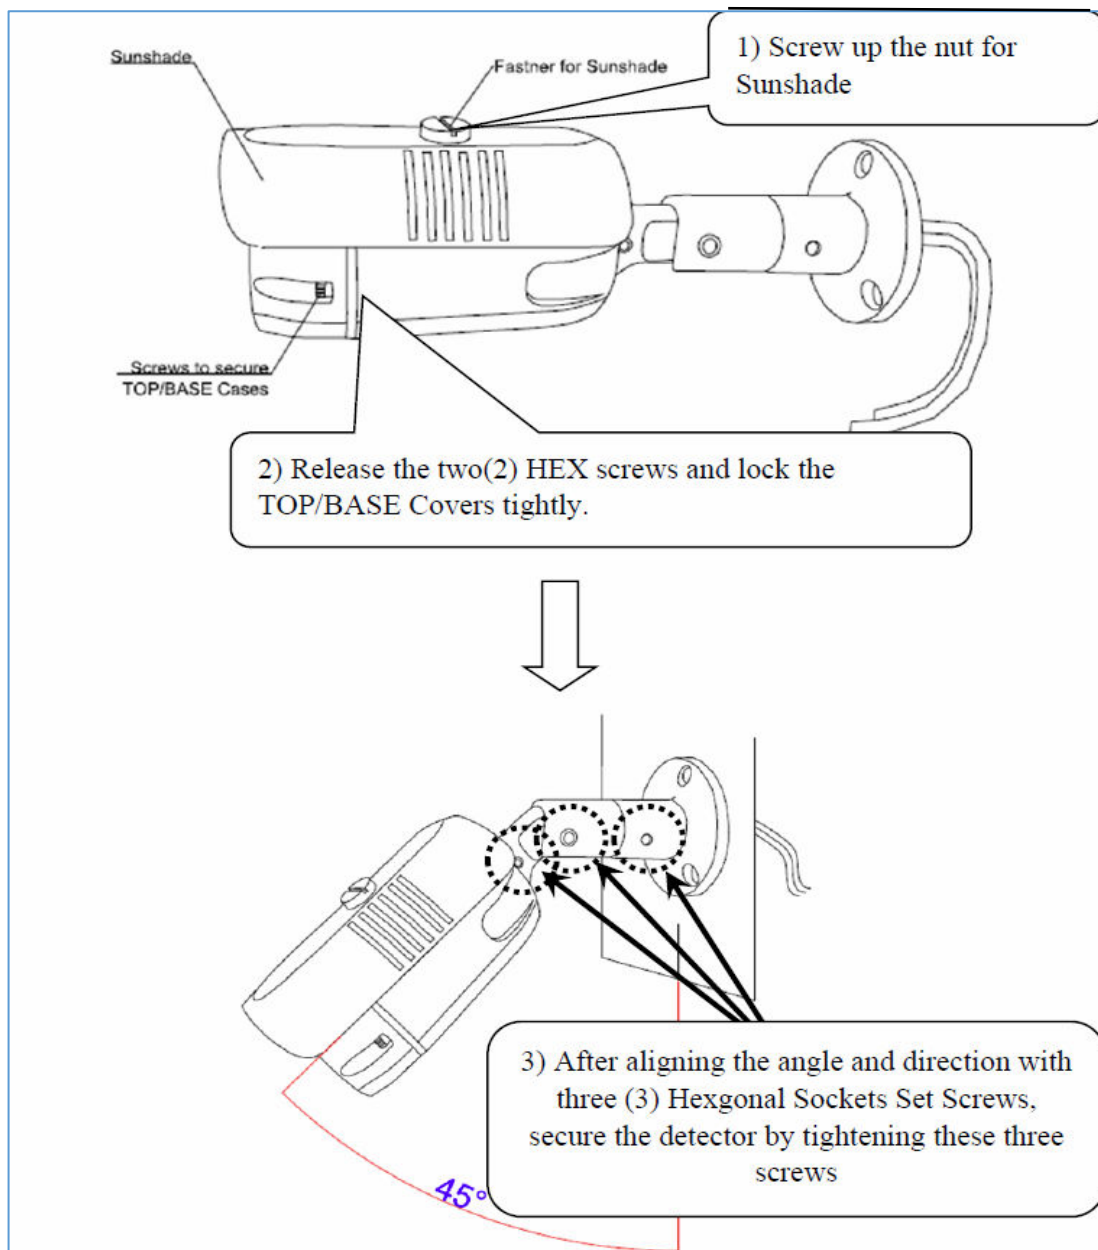

Figure 3. Final installation & Adjustment
- 1). Shown Fig.3, after screwing Top / Base Covers & Sunshade, place the detector in its designated locations on the wall and secure it with the provided three (3) fasteners through three (3) holes of detector mounting bracket.